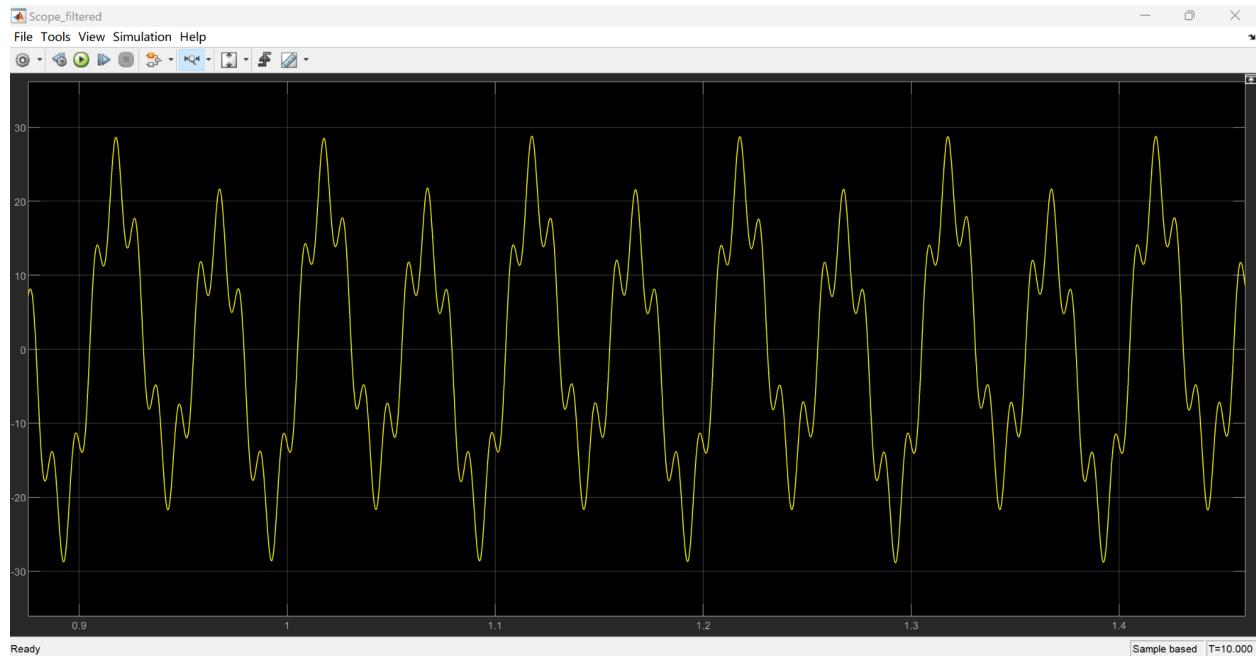

*Figure 9. Filtered scope plot with a sum of three sine waves.*
- 7) In this part, we set up the model with same parameters as previous part. With a slider gain of 1, we gain the filtered scope plot and filtered spectrum as shown in figure 9 and 10, respectively. The comparison between them and the plots that we get from part 6 will be discussed in Question part.
**Answer:** Comparing Figure 9 and 10 with 7 and 8, we can see that filtered scope plot is much smoother than scope(Rx), and it is very close to the input source signal. As for the filtered spectrum, it removes most noise in the Rx spectrum and reflects the overall frequency behavior of the source signal. An appropriate filter can greatly help us remove the noise and recover the original signal.